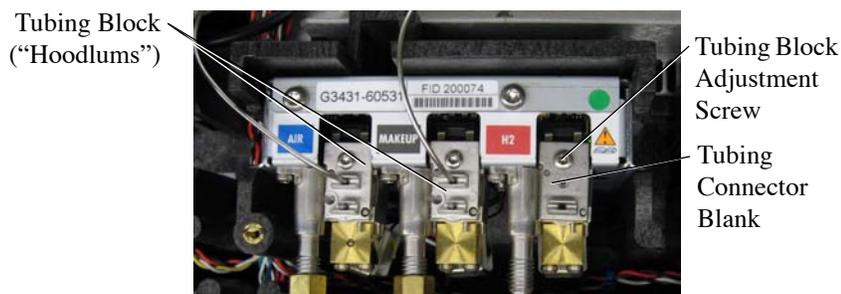

Figure 3.12. Tubing Connector Blanks
- Remove the appropriate tubing connector blanks (Figure 3.12) from the EPC module to expose the O-rings and restrictors.